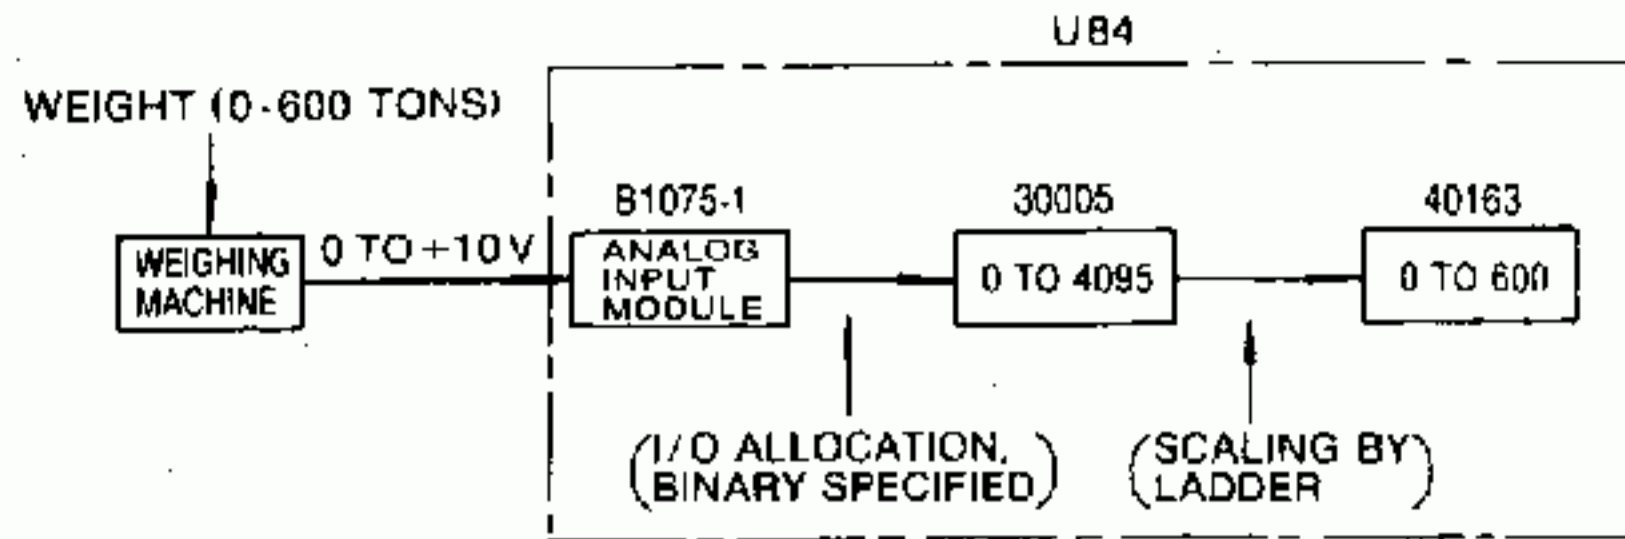

Fig. 4.35 Reading Analog Signal and Scaling
- Assume that a voltage signal of 0 to +10 V comes from the weighing machine to the analog input module B1075-1, as shown in Fig. 4.35, which converts the voltage signal to a numeric data of 0 to 4095 and enters it in input register 30005.